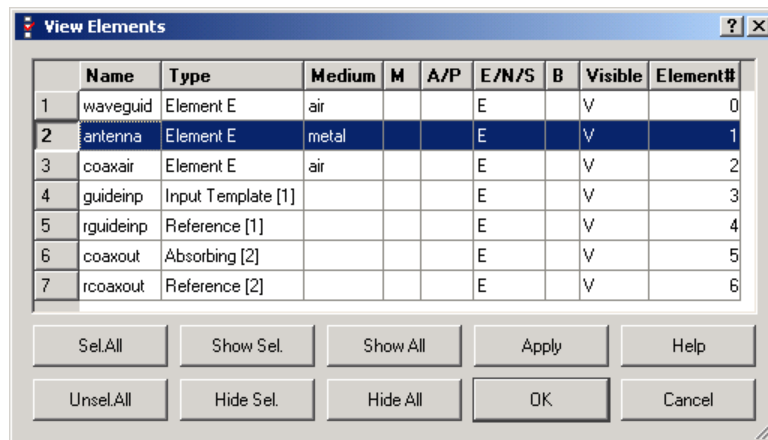

Fig.E 2.3-2 Example *View Elements* dialogue for the *wgtoctx1.pro* example with *antenna* element selected.
- o  *Elements* opens *View Elements* dialogue, which allows showing or hiding individual elements. Its form for the *wgtocx1.pro* example is shown in Fig.E 2.3-2. *Elements* can be selected / unselected with mouse clicks or via *Sel.All* / *Unsel.All* buttons. *Elements* can be shown or hidden by pressing *Show Sel* (or *Show All*) or *Hide Sel* (or *Hide All*), confirmed by *Apply* or *OK*. Double-click over *H* or *V* letter in *Visible* column, followed by *Apply* or *OK*, is